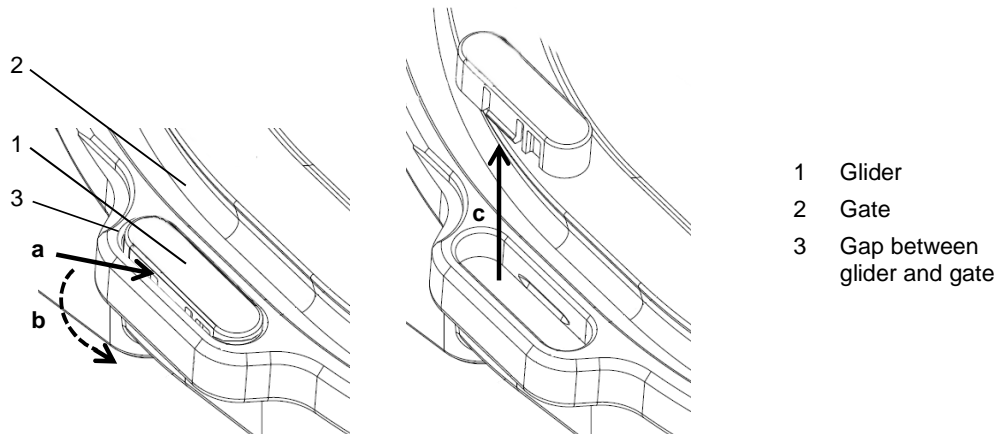

Figure 7-4
- Remove gliders from the front and backside of the gate with a small, edge shaped tool e.g. screwdriver. Squeeze tool into gap between glider and gate (a); see «Figure 7-4». Push down the tool (b) to release glider from pocket and remove glider (c).